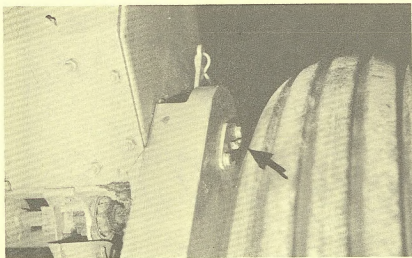

Figure 11. #4M Grease fitting installed in outboard bearing
4. Install a grease fitting in outboard bearing - Part No. RM4-11-3. This is done by drilling and tapping a hole in the center of the bearing to accommodate a 1/8 inch grease zerk fitting (Figure 11).